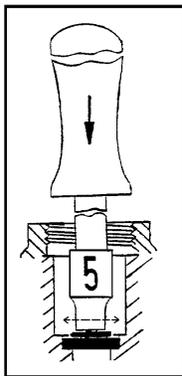

Figure 5-26: Tilting the Flow Restrictor
3. Remove the sealing washer and filter from inside the WPS connection. Using a 5mm nut-driver; press and tilt the restrictor to the side; as shown in Figure 5-26.